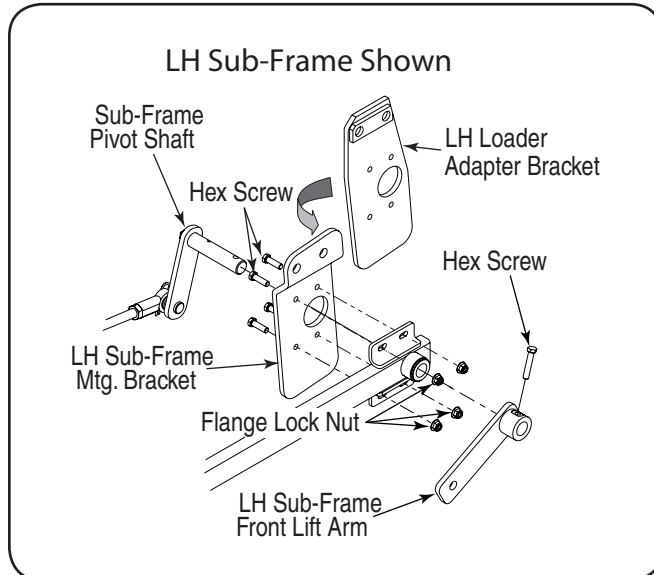

Figure 3
- Remove the hex screw fastening the LH front sub-frame link on the sub-frame pivot shaft, and slide the sub-frame link off of the shaft. Refer to Figure 3.
- Withdraw the pivot shaft from the bearings in the sub-frame rail. See Figure 3.
- Remove the four hex flange lock nuts and screws securing the LH sub-frame mounting bracket to the sub-frame rail to remove the mounting bracket. See Figure 3.
- Position the LH loader adapter bracket (12) to align its four holes with the four holes in the plate on the sub-frame rail. Refer to Figure 3. Insert the four hex screws and thread the hex flange lock nuts onto the screws. Tighten the flange lock nuts until almost snug. Do not fully tighten the fasteners.
- Insert the sub-frame pivot shaft through the sub-frame rail and slide the LH front sub-frame link onto the end of the shaft. Align the holes in the sub-frame link with the hole in the pivot shaft and insert the hex screw removed earlier. Fully tighten the hex screw. Refer to Figure 3.
- Repeat the above procedure to install the RH loader adapter bracket (11) onto the RH sub-frame assembly (16).